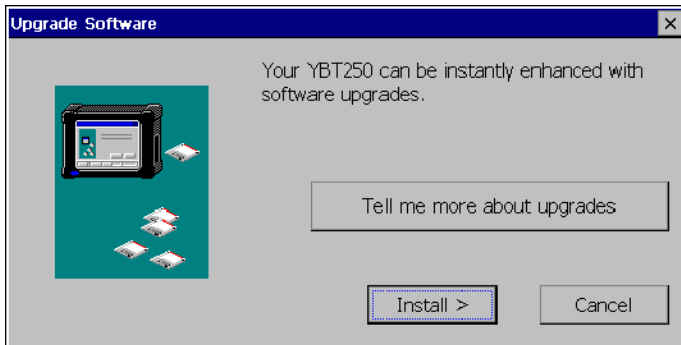

Figure D-1: The dialog displayed by selecting Tools>Upgrade Software
2. From the YBT250 application menu bar, select **Tools > Upgrade Software**. The dialog box shown in Figure D-1 appears.